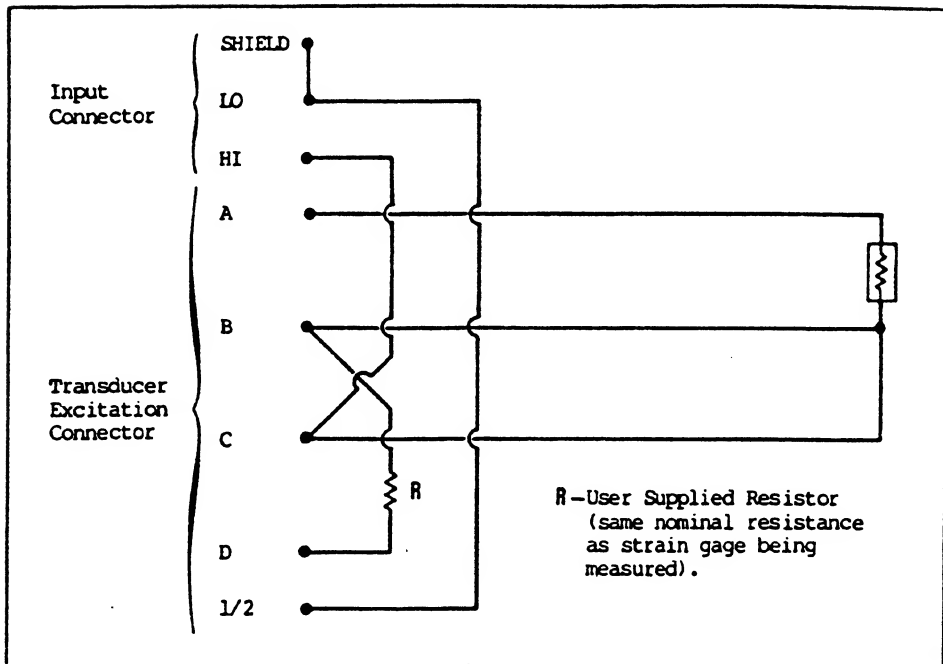

Figure 174-2. Wiring (1/4-Bridge Strain)
- o Strain measurements must be wired according to Figure 174-2, 174-3, or 174-4 for 1/4-, 1/2-, or full-bridge configurations, respectively.